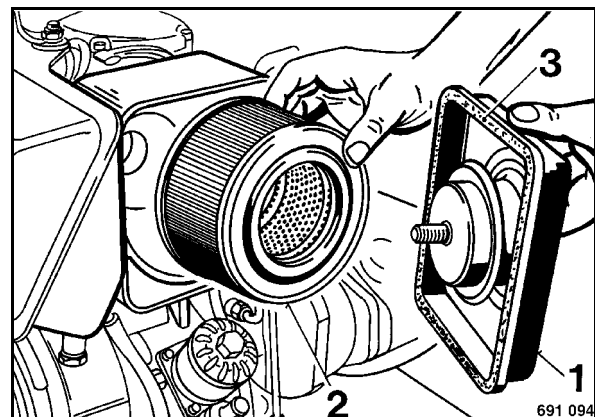

Fig. 83
- Insert the filter cartridge (2) (Fig. 83).
- Check the sealing face (3) on the housing.
- Attach the cover (1) and tighten it with the wing screws.